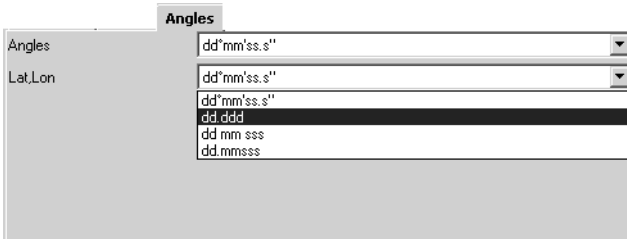

Figure 5-11. Angles Tab
- The *Angles* tab (Figure 5-11) defines an angle representation.